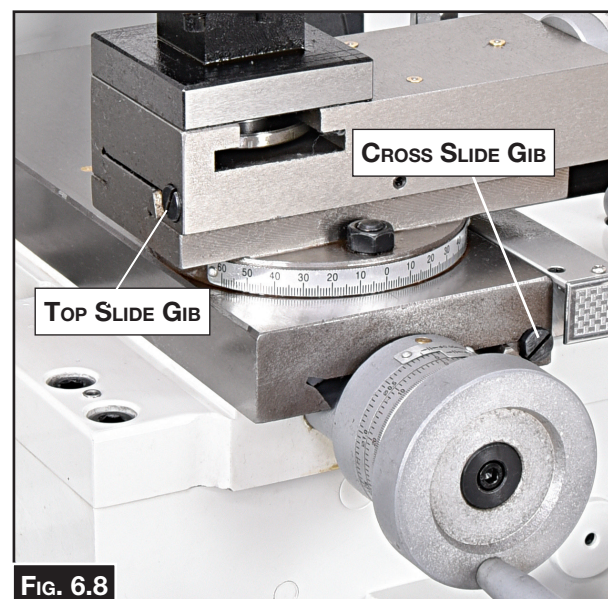

FIG. 6.8
2. Release the rear gib screw and tightening the front screw a little at a time. Check constantly for a smooth action throughout the full slide travel. (Fig. 6.8)